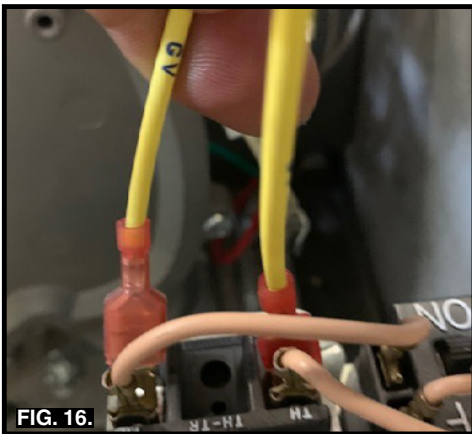

FIG. 16.
12. Connect the Gas Valve. (Fig. 16)